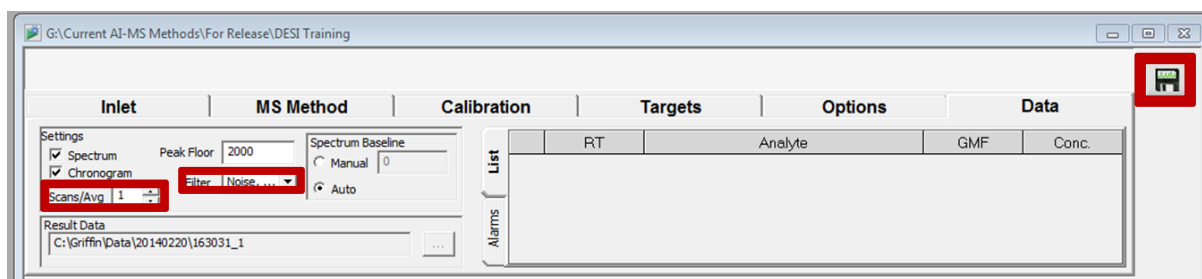

Figure 4.28 – Data tab
10. Select the “Data” tab (Figure 4.28).